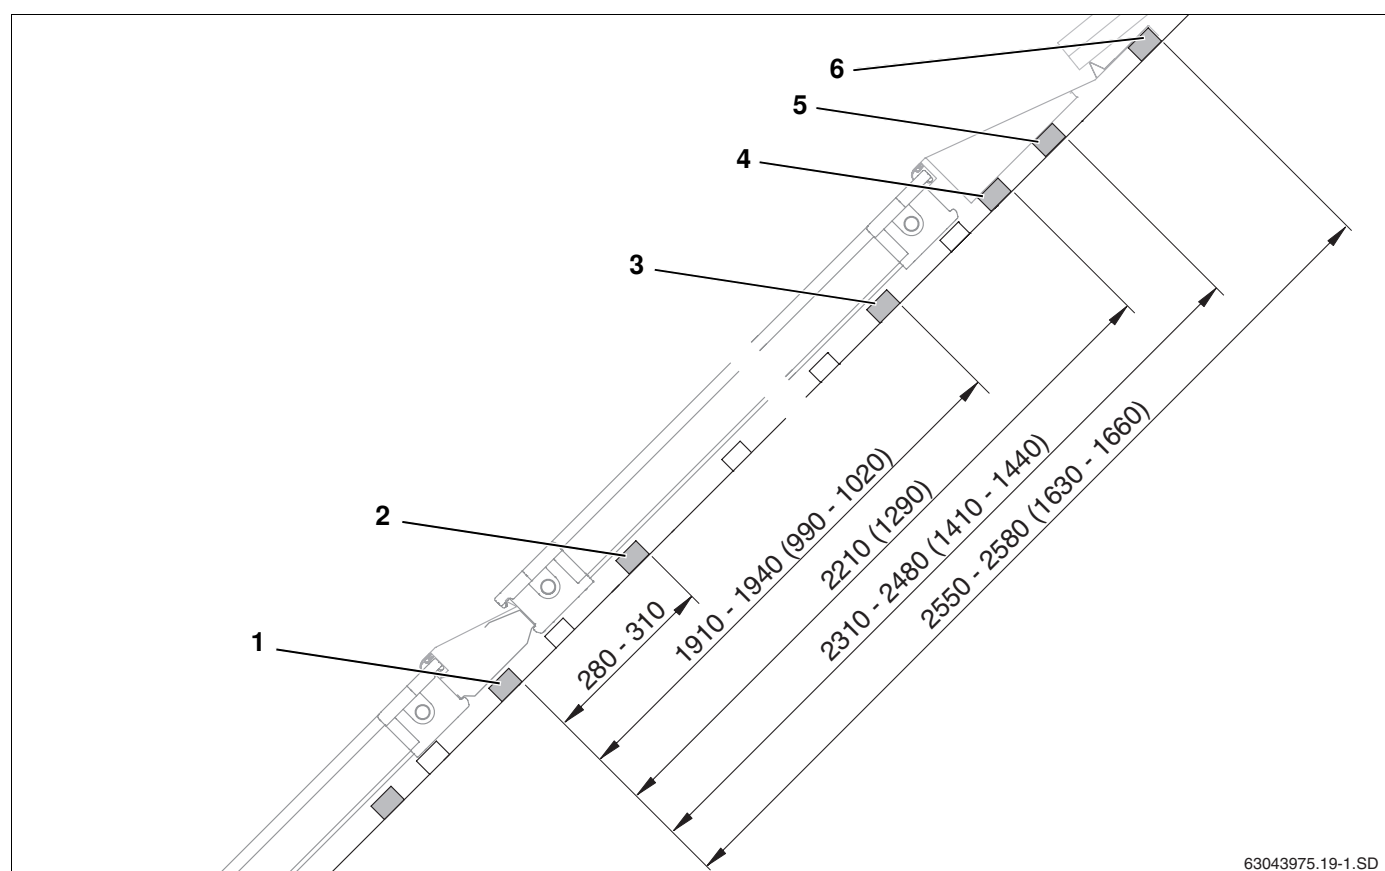

Fig. 15 Distances between additional roof battens when installing more than one row (measurements in mm, values in brackets = landscape version)
The fourth additional roof batten (one-row installation) is also the first roof batten of the row above (Fig. 15, **Item 1**) and is required for anti-slip protection on the upper collector array.
- Attach second roof batten for the side clamp (Fig. 15, **Item 2**).
- Attach third roof batten for the upper side clamp (Fig. 15, **Item 3**).
- Attach fourth roof batten for supporting the polystyrene wedge of the upper facing collectors (Fig. 15, **Item 4**).
- Attach fifth roof batten for supporting the upper facing collectors (Fig. 15, **Item 5**).
- Attach sixth roof batten for supporting and fastening the upper facing collectors (Fig. 15, **Item 6**).